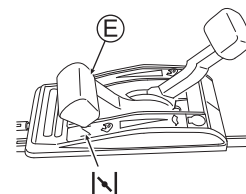

Fig. 11
3. Set the throttle lever (E) to choking "I/N". (See Fig. 11) (The engine can start by setting the lever at "I/N" when it is warm.)